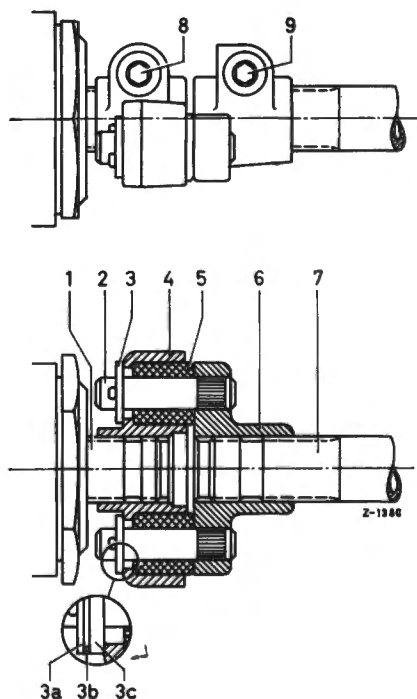

Fig. 46-13/2
6. Press the bushings into the lower flange (4) and press the flange onto the bolts (2) in the upper flange. Then slightly compress the two flanges in a vise, push on the washers (3), the inside plastic washers, the spring washers in the middle and the outside steel washers, and cotter (Fig. 46-13/2).